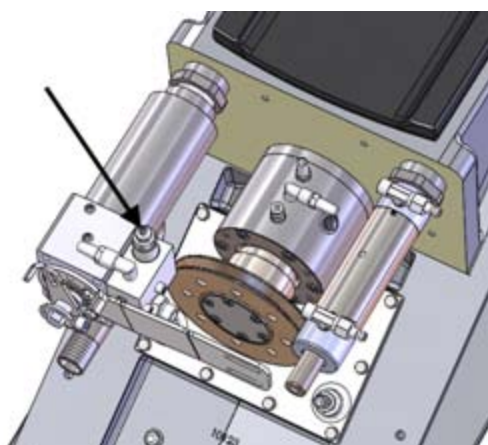

Figure 15. Lubricating the Rear Bearing
- If the automatic lubrication unit feeds too much grease (the reservoir empties too soon), reduce the pressure by loosening the adjusting screw (figure 15).
- If the automatic lubrication unit does not feed grease to the rear bearing (cold conditions, thick grease type), increase the pressure by tightening the adjusting screw (figure 15).